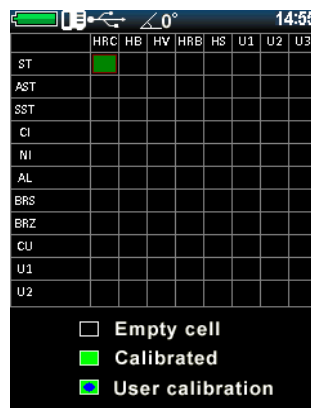

Figure 2.34 – Grading
1. To calibrate by two points, select <CALIBRATION> in the main menu (Figure 2.34).